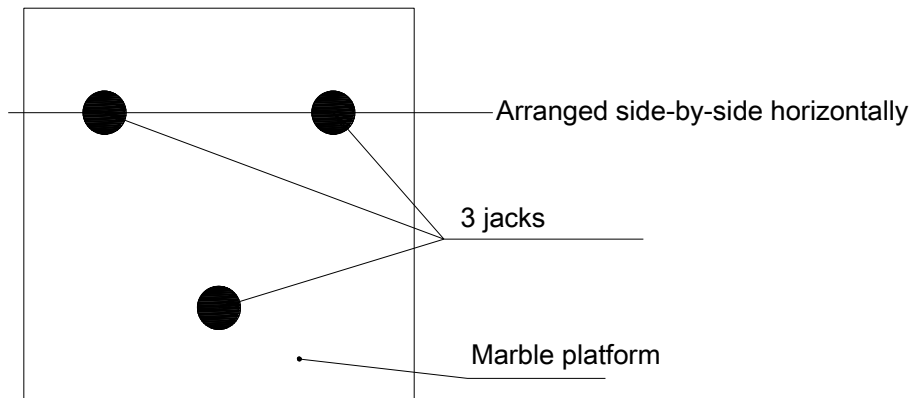

Fig. 2-6 Allocation of three jacks
- 1) Place marble platform on three jacks, with test surface up. Allocation of three jacks is shown as Fig. 2-6.